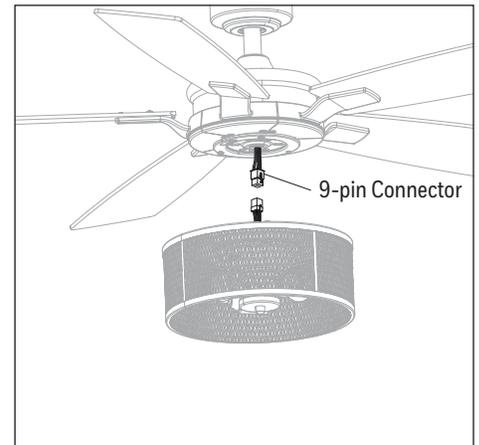

Figure 5.6
- Remove one of the three fitter plate screws from the fitter plate and loosen the other two. Then, connect the 9-pin connector from the fan to the 9-pin connector from the light kit (Figure 5.6).